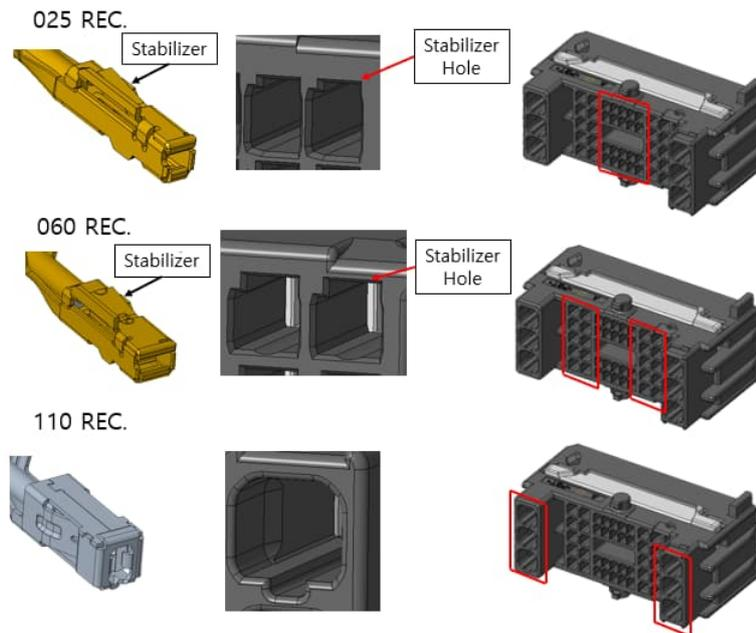

Fig. 10
(2) Insert contacts into each specific cavity as shown in Fig. 10. Operation is completed when contact is latched, and the insertion is stopped.